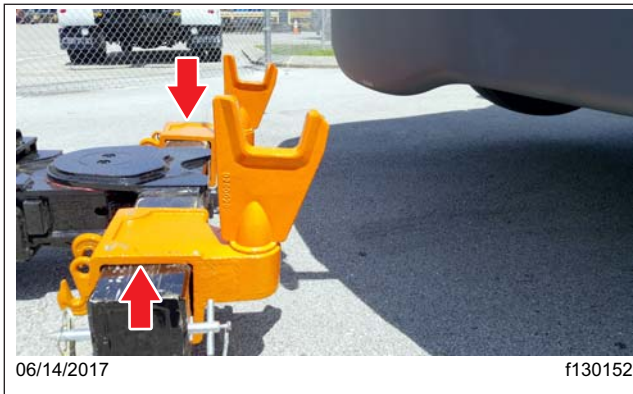
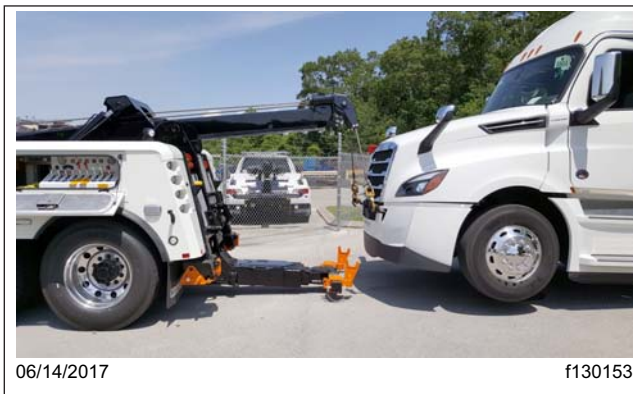

Fig. 23.11, Lift Adaptors Installed on the Crossbar
Fig. 23.12, Backing the Tow Truck with Lift Adaptors on the Crossbar
9. Use mid-rise or high-rise forks, or lift adaptors (part number 0200020) on the crossbar to provide clearance for the aerodynamic bumper. See Fig. 23.11 and Fig. 23.12.